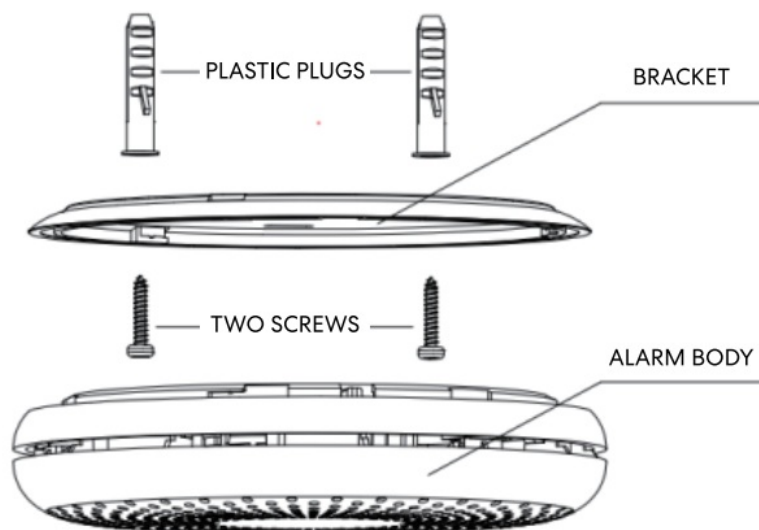

Figure 4
4. Screw the mounting bracket to the ceiling or the wall (Refer to figure 4).